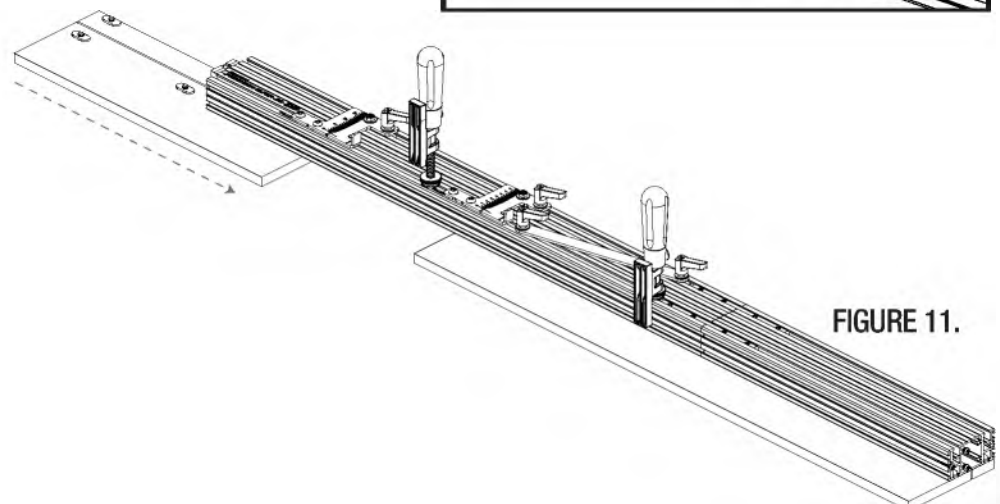

FIGURE 11.
8. In the 16" MDF extension sleds, install the Countersunk Screws and Oval Nuts (as in Section I. Page 2). Slide these Extension Sleds in from the Hinge end until they contact the 32" Long Sleds. Tighten the Screws. **FIGURE 11.**